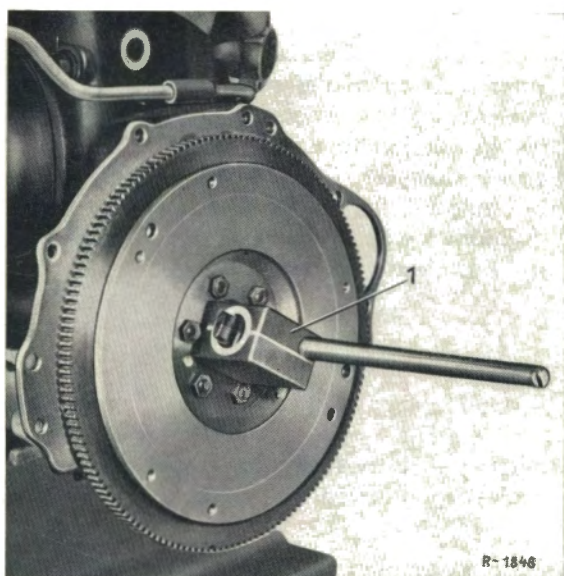

Fig. 26-1/14
4. Install a dial gage stand with Puppitast gage attached on the holder projecting through the top bearing bore in the clutch housing and align it in accordance with the internal diameter of the bore (see Fig. 26-1/15).